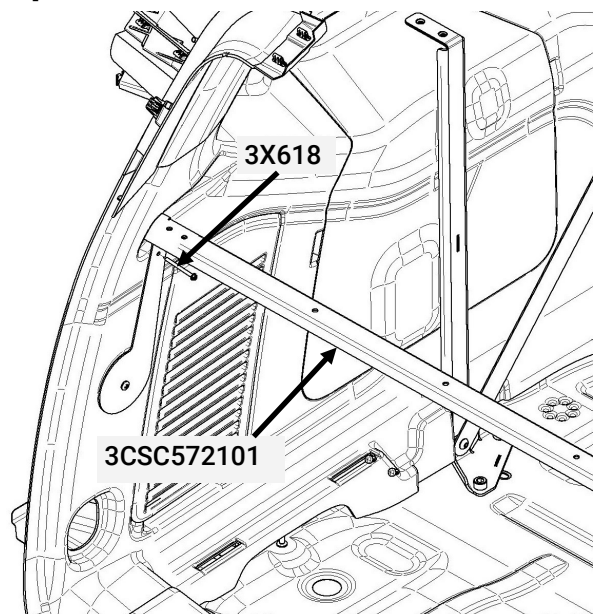

Figure 4
- C. Install Rear Support Bar [3CSC572101] by sliding in trim feature above tie-down and over previously installed brackets. 3CSC572101 should be pressed forward against trim feature. Then drive the (2) #8 x 2" sheet metal screw [3X618] (Figure 4) into [3CSC572102] and [3CSC572103].